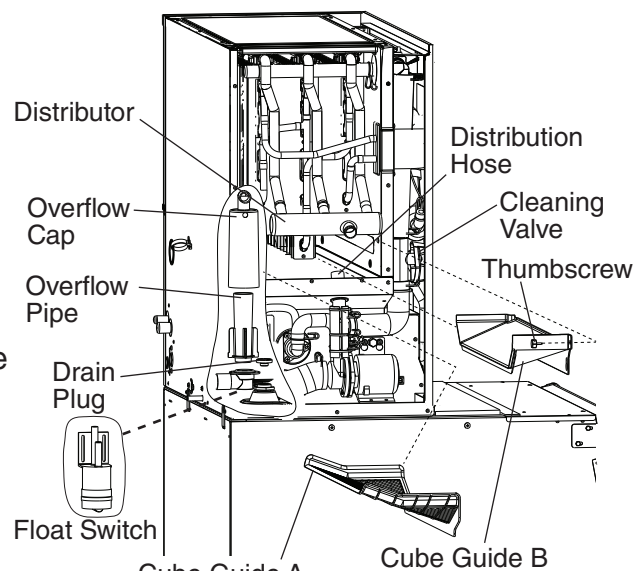

Fig. 4
- 3) Disconnect the distributor from the distribution hose. Remove the thumbscrew securing cube guide B. Remove cube guide B and cube guide A. See Fig. 4.